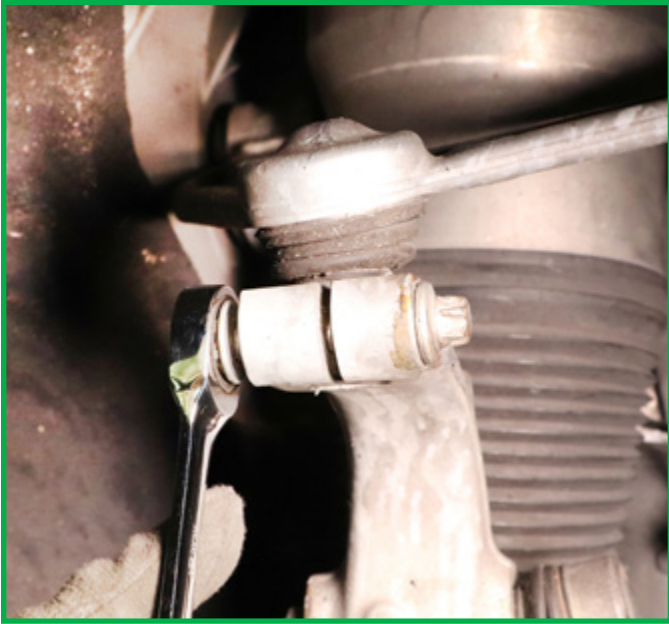

FIGURE 13
10. Remove bolt and nut from spindle and disconnect. (Figures 13, 14)